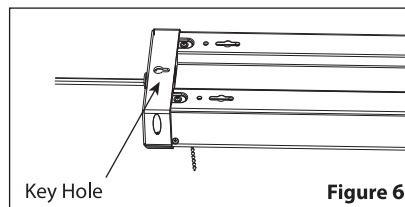

Figure 6
2. Install fixture to mounting surface by inserting the Key Holes on top side of the fixture into the mounting screws (See Figure 6). It may be necessary to adjust the tightness of the screws (Gap D). Make sure both screws hold the lamp securely on the narrow side of the Key Holes.